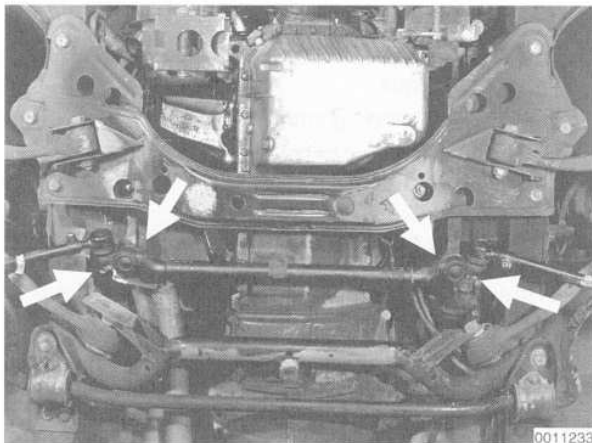

Fig. 9. Center tie rod self-locking nuts (arrows) to be removed.
2. Remove the self-locking nuts connecting the center tie rod to the outer tie rods, the pitman arm, and the idler arm. See Fig. 9.